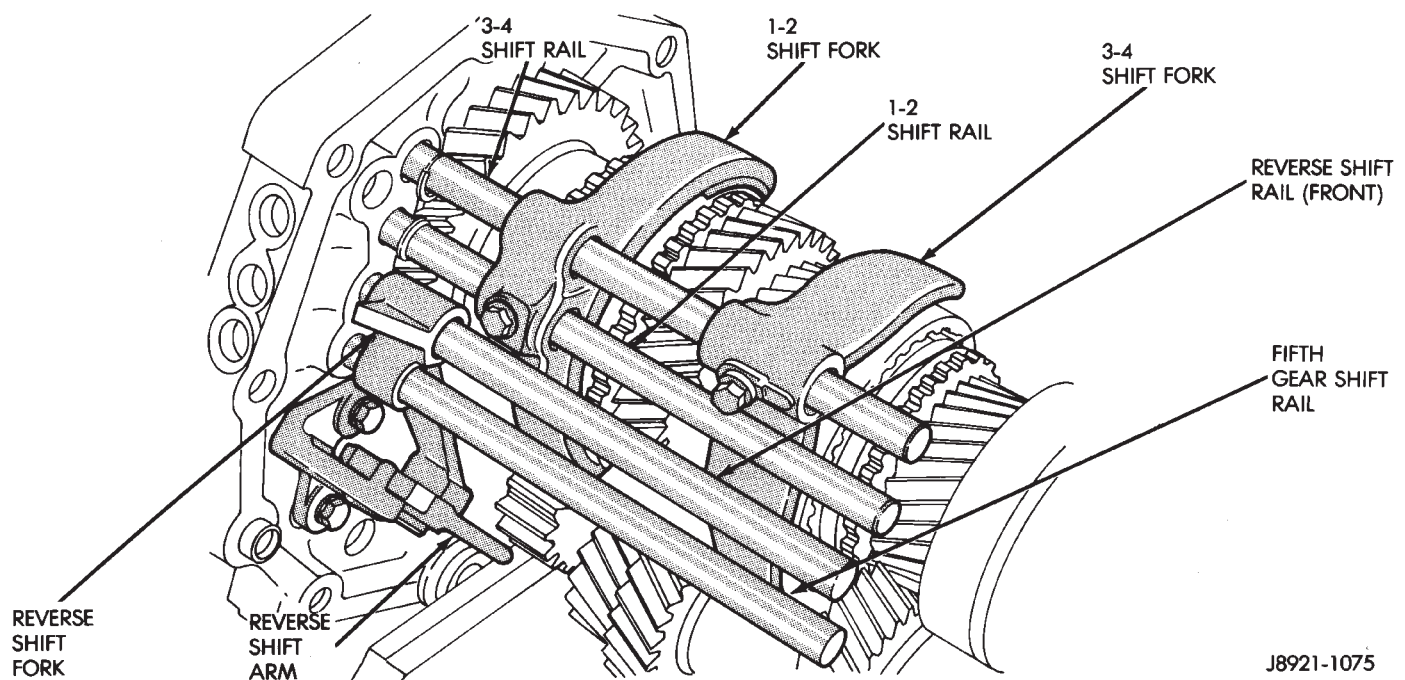

Fig. 41 Shift Rail Identification
There are a total of five shift rails in the AX 15 transmission. The 1-2, 3-4, fifth gear and front reverse shift rails are shown in Figure 41.
Two shift rails are used for reverse gear range. The front reverse rail is at the forward side of the intermediate plate (Fig. 41). The short rear reverse rail and reverse shift head are at the rear side of the intermediate plate.
(1) Remove fifth gear shift rail (Fig. 41). Catch lock ball in your hand as rail comes out of intermediate plate.